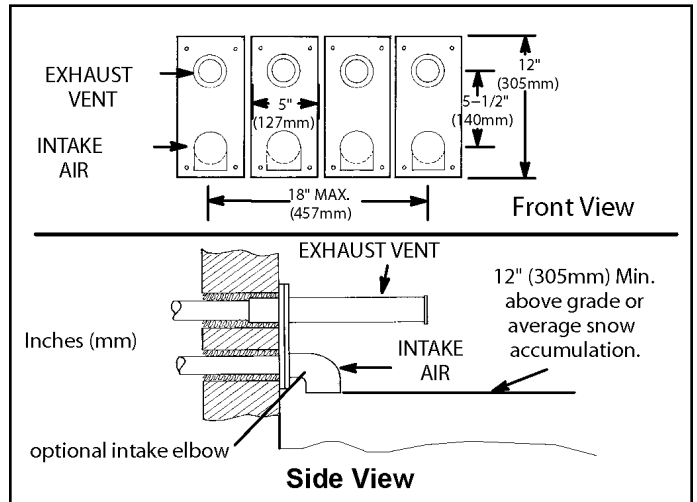

Figure 36. Optional Vent Termination for Multiple Unit Installation of Direct Vent Wall Termination Kit
- Based on the recommendation of the manufacturer, a multiple furnace installation may use a group of up to four terminations assembled together horizontally, as shown in Figure 36.